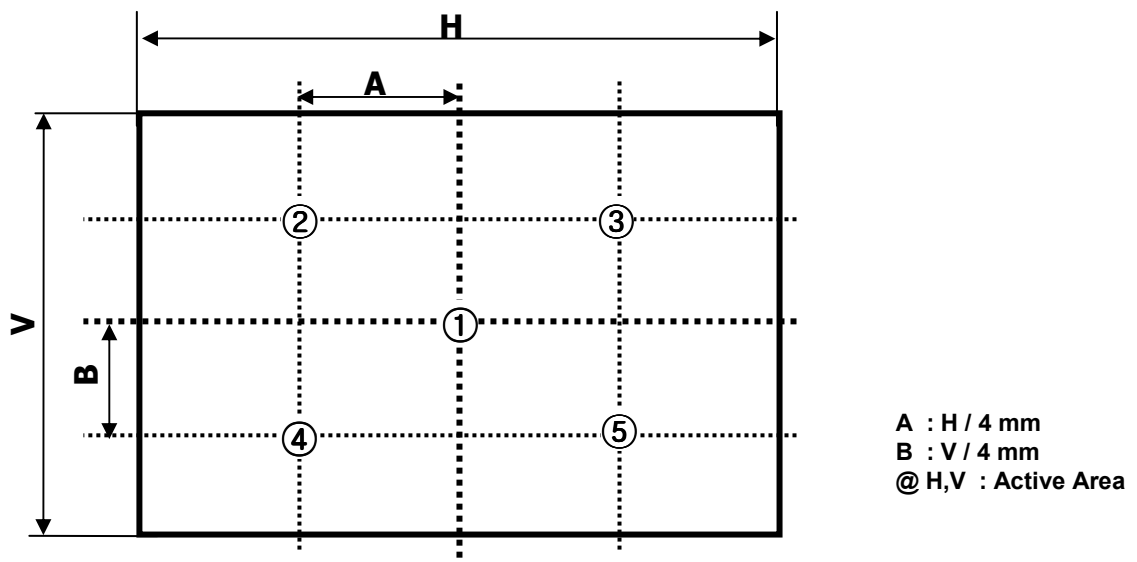

FIG. 2 5 Points for Luminance Measure
2. Surface luminance are determined after the unit has been 'ON' and 60min after lighting the backlight in a dark environment at $25 \pm 2^\circ\text{C}$. Surface luminance is the luminance value at center 1-point across the LCD surface 50cm from the surface with all pixels displaying white. For more information see the FIG. 2.
For more information, see the FIG. 2.